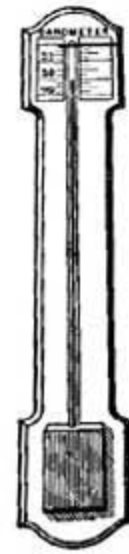

FIG. 44.—A simple barometer.
78. The Barometer. Since the pressure of the air changes from time to time, the height of the mercury will change from day to day, and hour to hour. When the air pressure is heavy, the mercury will tend to be high; when the air pressure is low, the mercury will show a shorter column; and by reading the level of the mercury one can learn the pressure of the atmosphere. If a glass tube and dish of mercury are attached to a board and the dish of mercury is inclosed in a case for protection from moisture and dirt, and further if a scale of inches or centimeters is made on the upper portion of the board, we have a mercurial barometer (Fig. 44).